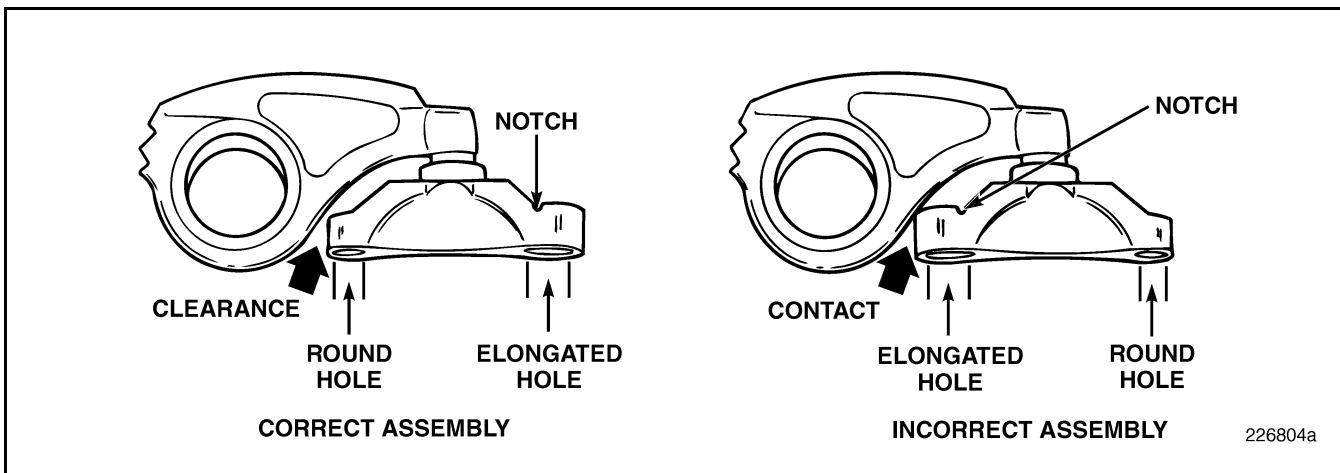

Figure 289 — Proper Assembly of the Pinless Valve Yoke
- Place the valve yokes (4) on the yoke guide pins from which they were removed for both inlet and exhaust (early production) or exhaust only (engine serial No. 0D0120 or later). Current-production engines use a pinless yoke at the inlet positions. The pinless yokes are installed over two inlet valves with the notch and the elongated hole facing away from the rocker arm as shown in Figure 289.
When installing pinless yokes, the end of the yoke with the two notches must face *away* from the valve rocker shaft. If the yoke is installed incorrectly, it will contact the rocker arm. See Figure 289.